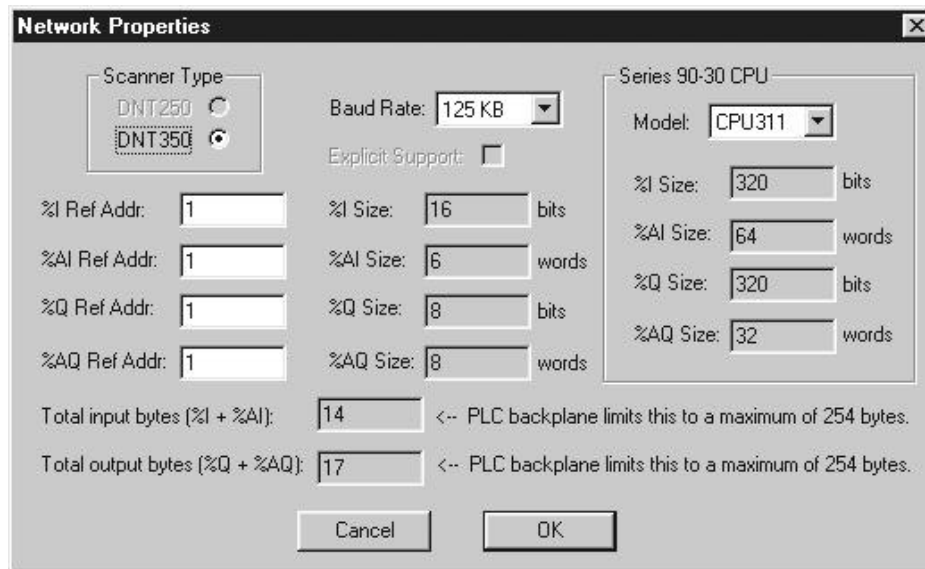

Figure 6.7 – Network Properties
5. After the complete node template library has been created, it is now appropriate to configure the **Network Properties** screen (Figure 6.7). Afterwards, the nodes can be placed into the visual display of the network on the right side of the screen, and then each node can be individually configured.
Select **Network, Properties** or double-click anywhere on the screen in the right window pane. A screen similar to Figure 6.7 appears. Set the scanner type, baud rate, and CPU. The user needs to set the starting **Reference Addresses** of the registers. Note that the size of the registers are based upon the CPU model selected. The size of the registers are not edited by the user, and they are automatically set by the software. It is important to pay attention to the total **Input Bytes** and **Output Bytes**, and the notes shown on the screen regarding byte limits.